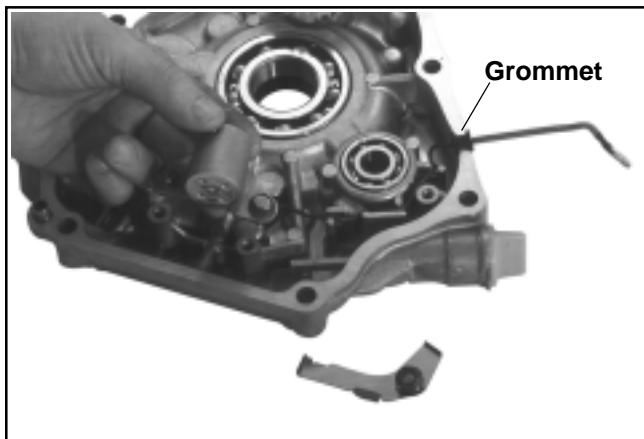

Figure 9-77. Removing Shield and Oil Sentry™.
3. Remove the two hex. flange screws mounting the oil sentry gauge and the single screw holding the wire shield in place. See Figure 9-77.